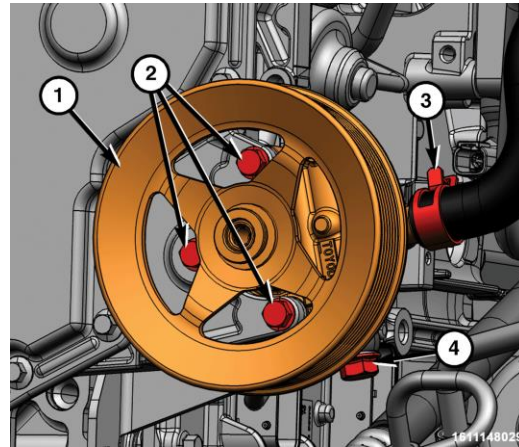

Figure 10 – Power Steering Pressure
30. Using a backer wrench to stabilize the fitting disconnect the pressure hose (4) to the power steering pump (1) and DISCARD the washers (Figure 10).